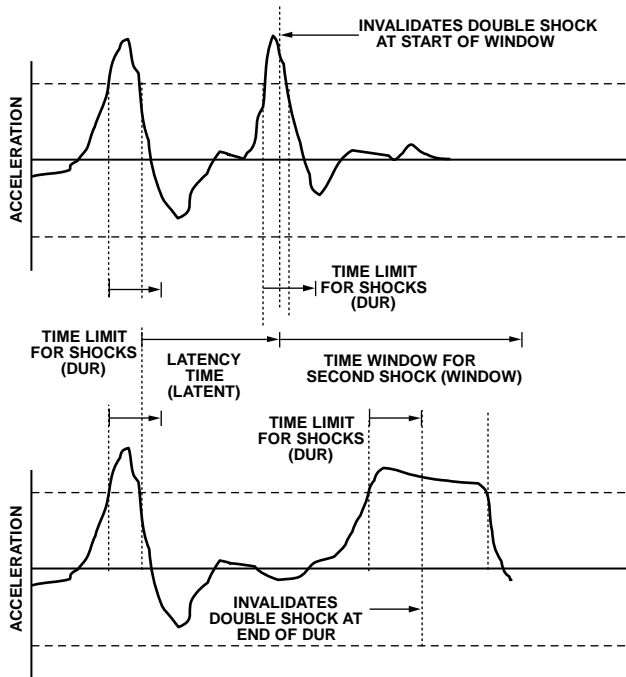

Figure 35. Shock Interrupt Function with Invalid Double Shocks
- A double shock event can be invalidated if acceleration above the threshold is detected at the start of the time window for the second shock (set by the window register), resulting in an invalid double shock at the start of this window (see Figure 35).
- A double shock event can be invalidated if acceleration exceeds the time limit for shocks (set by the DUR register), resulting in an invalid double shock at the end of the DUR time limit for the second shock event (see Figure 35).